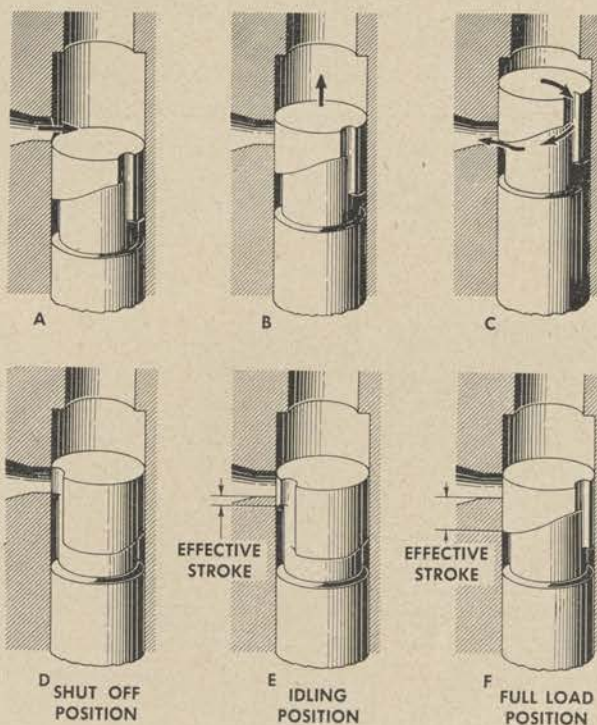

Figure 171. Operation of fuel injection pump.
2. Inserts A, B, and C of figure 171 illustrate the functioning of an injection pump as the plunger makes a stroke. Inserts D, E, and F of figure 171 illustrate how rotating the pump plunger affects the quantity of fuel injected.